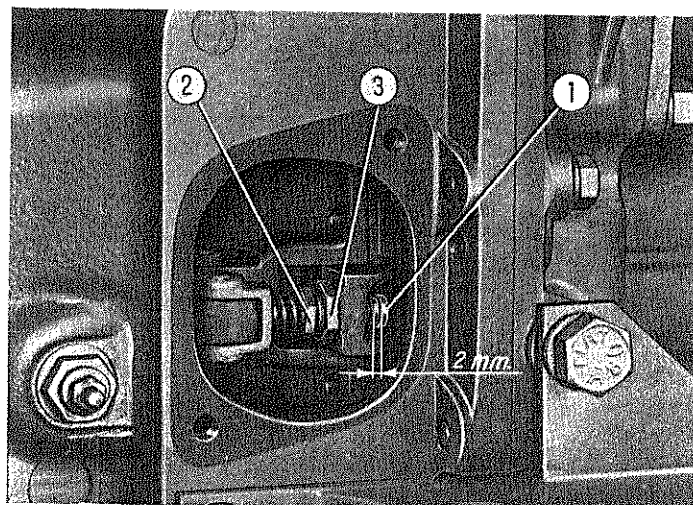

Fig. 14. - P.T.O. clutch release adjustment rods.
- Take off the right side cover (see fig. 14).
- Engage the 6th speed and push the tractor until one of the adjustment rods appears in the opening (see fig. 14).